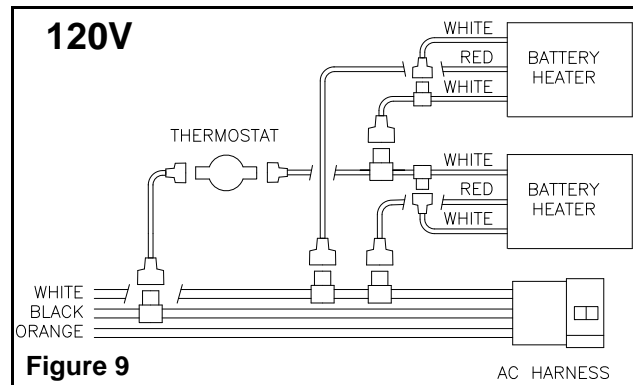
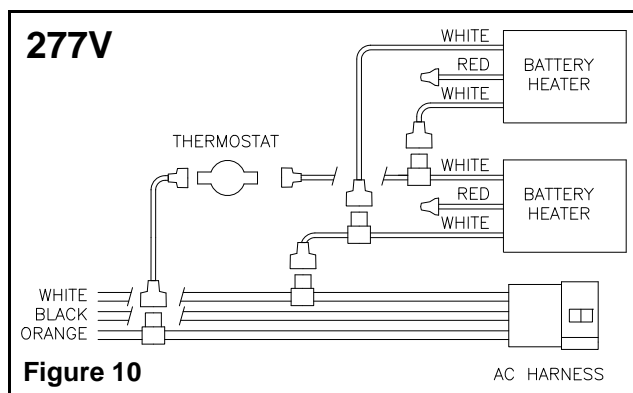

Figure 9
Figure 10
- c. Refer to figure 9 for 120VAC input voltage and to figure 10 for 277VAC. Use wire taps provided with the hardware kit to connect battery heater.